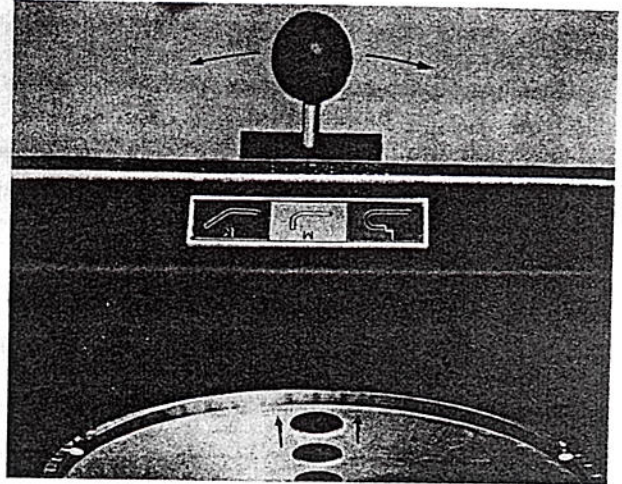

Fig. 6: Control lever for Adjustment of Bending Angle
- Fig. 6 Assembly Drawing: Control Box
Once the trip dogs have been inserted, pre-selection is effected by shifting the ball-handle lever to the left or right (Fig. 6). The positions of the trip dogs should be determined by a number of trial bending operations. The precise setting to offset the pitch of the holes accommodating the trip dogs is obtained by means of the infinitely adjustable overarm bars.